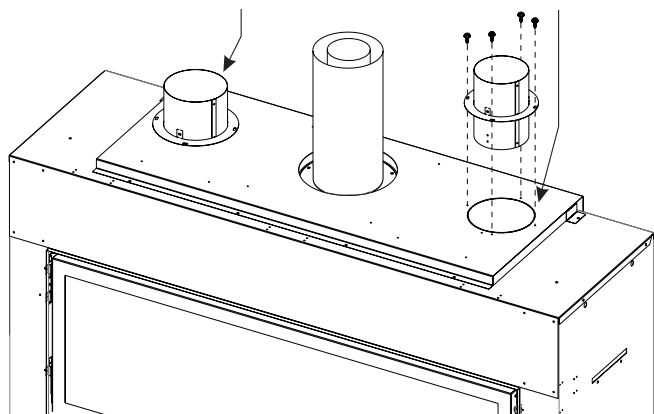

Figure 10
After the insulation plugs are removed, additional metal knockouts must be removed from the inner heat shield using a standard screwdriver and/or sheet metal snips. **See Figure 10.**
- Install the starter collar assemblies (from step # 9) to the fireplace. Insert the collars into the vent holes on top of the fireplace making sure the bottom of the collars are touching the inner heat shield, then install (4) # 10 X 1/2" screws to secure each collar assembly. **See Figure 10.**